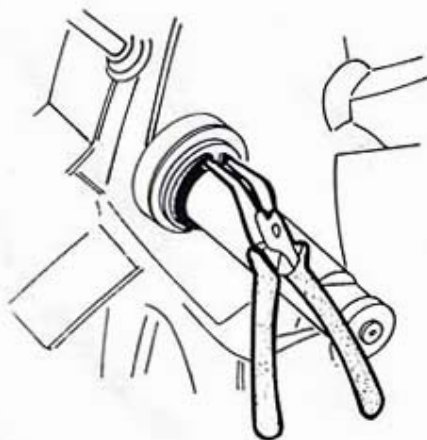

Fig. 1
- Fit the ring and thrust washer (fig. 1).